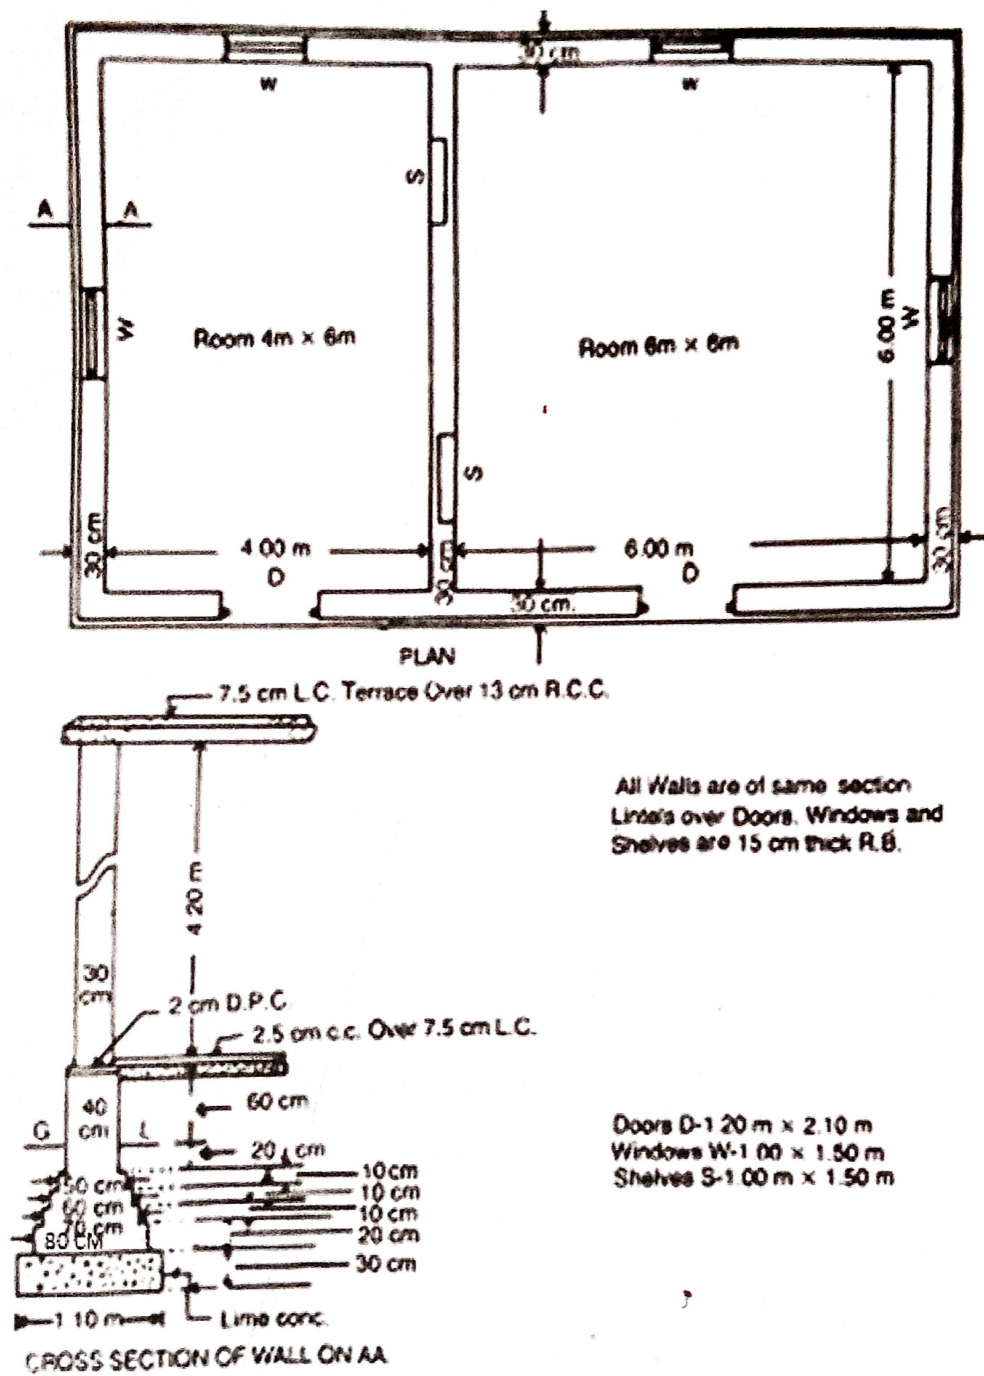

Figure 2
- 3 Find out the quantities of following item of work from Figure 2 using Centre Line method 10